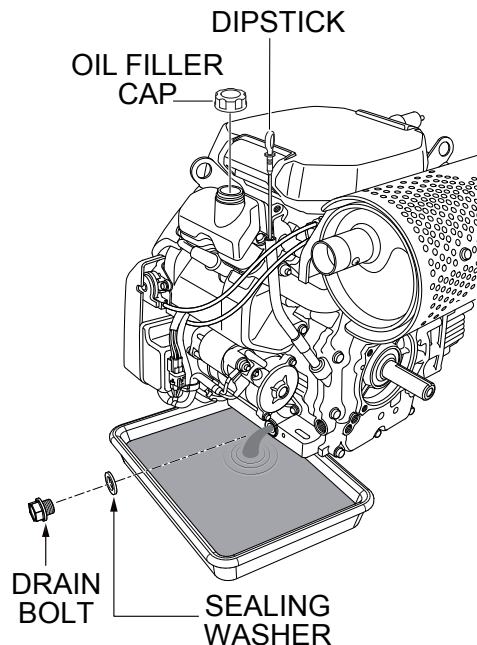

Figure 38. Draining Engine Oil
1. Drain engine oil when the oil is warm as shown in Figure 38.